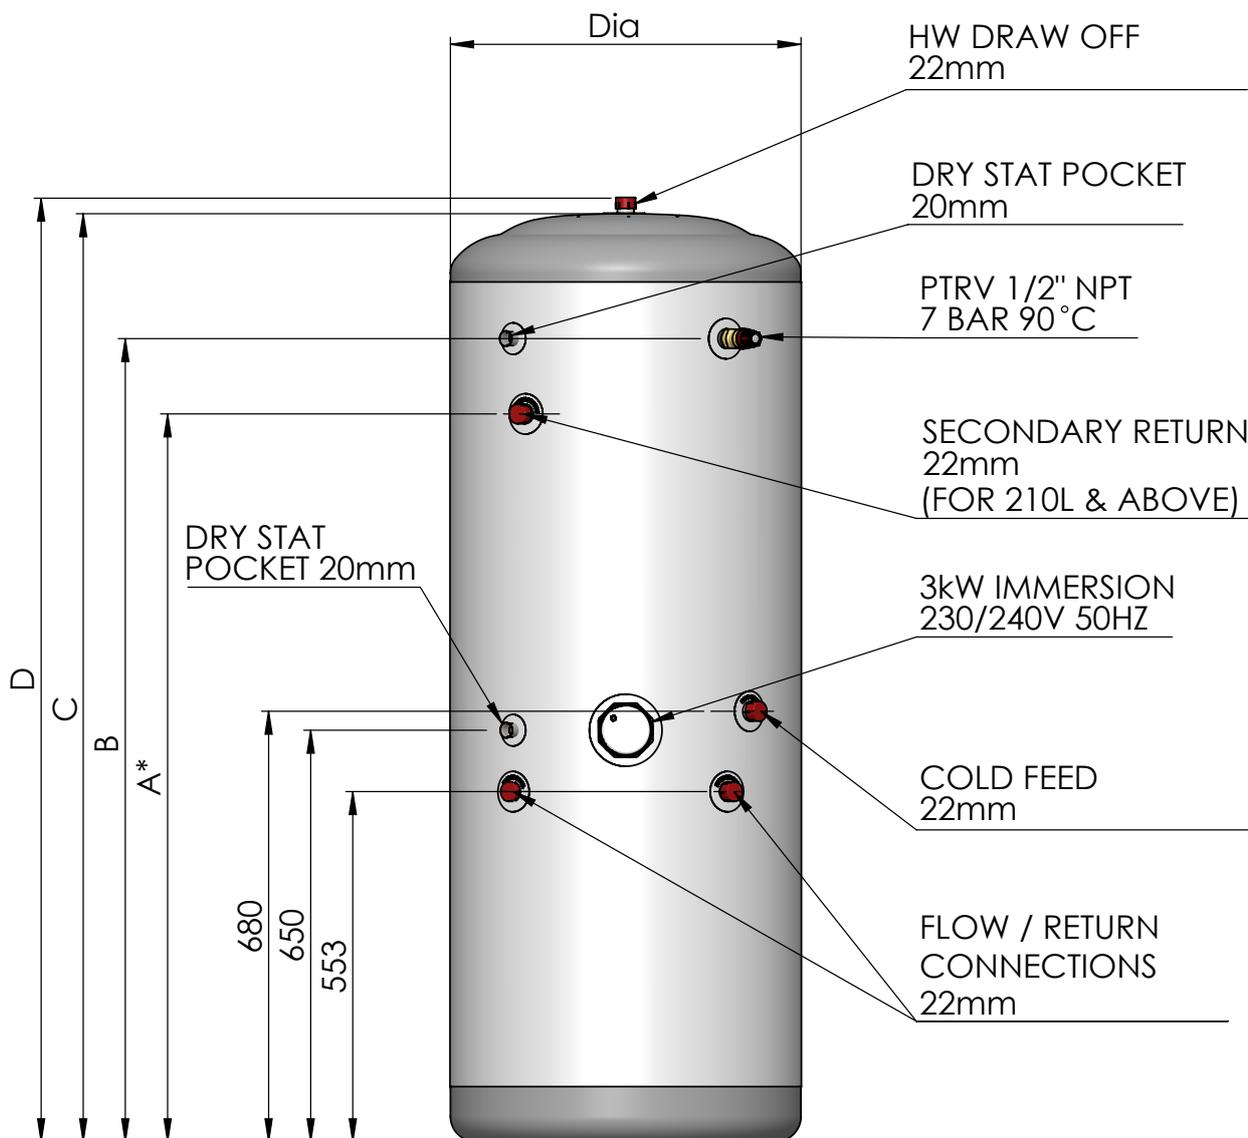

Figure 2-1: Grant QR single coil heat pump cylinder dimensions
1. The primary flow and return connections from the heat pump should be made to the flow and return connections of the cylinder. Refer to Figures 2-1 to 2-5, as appropriate.